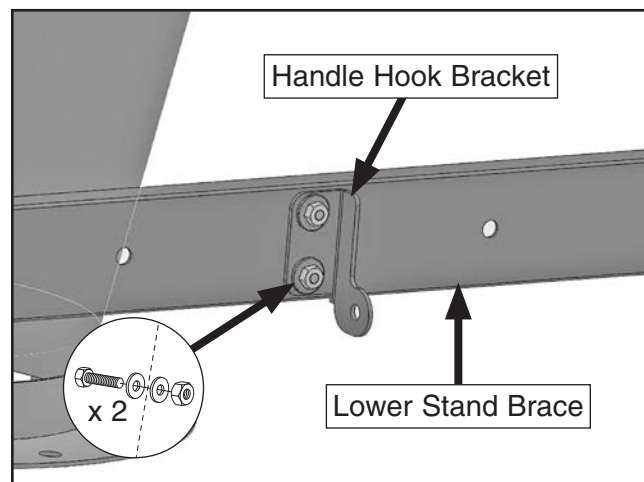

Figure 32. Handle hook bracket attached to lower stand brace.
38. Attach handle hook bracket to lower stand brace above handle with (2) $\frac{3}{8}$ "-16 x 1" hex bolts, (4) $\frac{3}{8}$ " flat washers, and (2) $\frac{3}{8}$ "-16 lock nuts (see **Figure 32**).